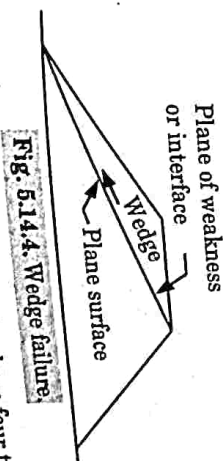

Fig. 5.14.4. Wedge failure.
- 4. Wedge Failure : A failure along an inclined plane is known as plane failure or wedge failure or block failure, as shown in Fig. 5.14.4. It occurs when distinct blocks and wedges of the soil mass become separated.